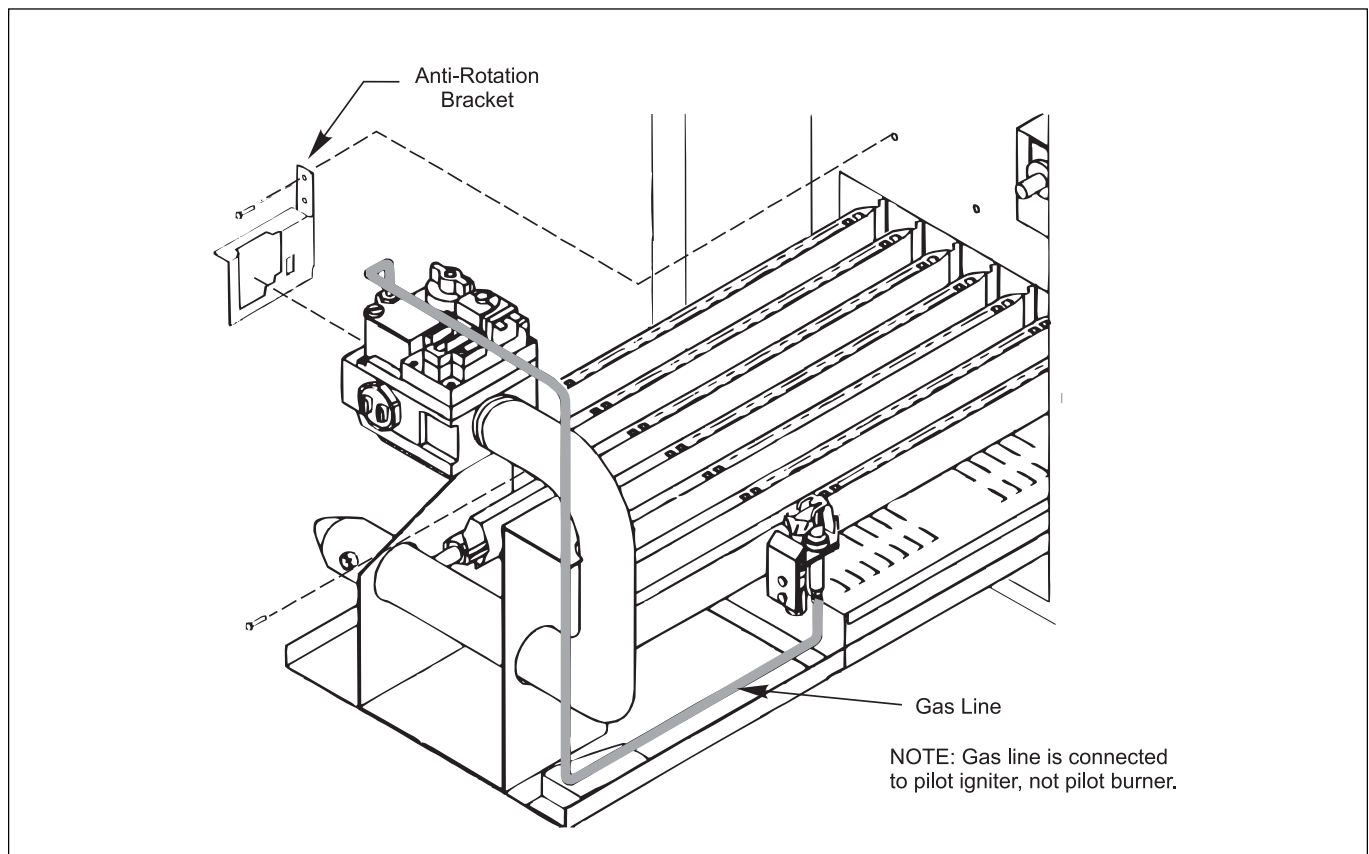

Figure 30. Gas valve/burner replacement.
4. Disconnect the service union in the gas line, and unscrew the main gas pipe from the gas valve (see Figure 30).
5. Remove the two screws that fastens the anti-rotation bracket on the left side of the gas valve (see Figure 30), and the three screws attached to heater.
8. Pull the burner tray out of the heater (see Figure 30).
15. Install the anti-rotation bracket to the inner panel and fasten with two screws (see Figure 30), and the three screws to heater.
16. Connect the service union in the gas line, and screw the main gas pipe to the gas valve (see Figure 30).